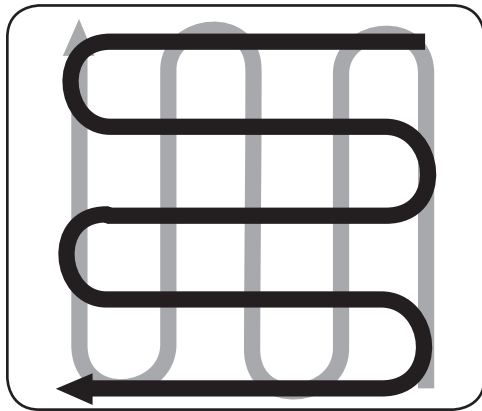

Figure 4-6
- When finished in one direction, make a second pass at a right angle, as shown in Figure 4-6. Overlap each pass for the best results (in very hard ground, it may take three or four passes to thoroughly pulverize the soil.)